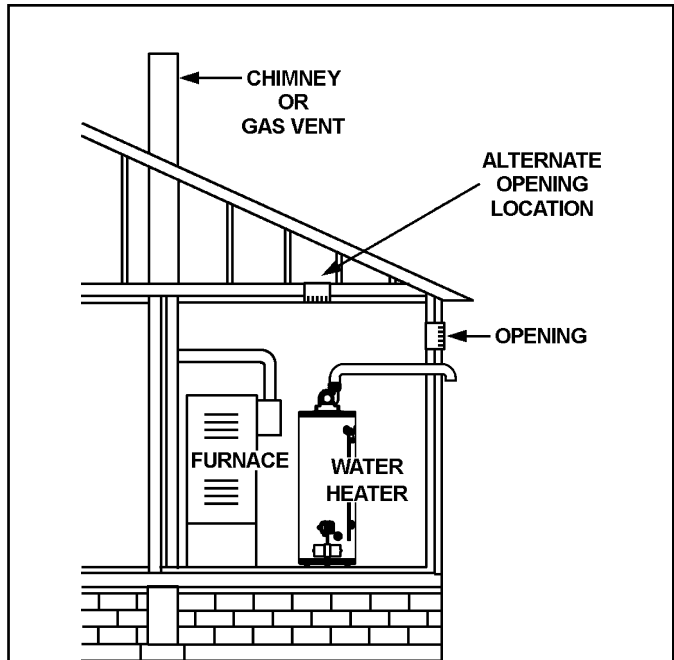

Figure 19.
- Alternatively a single permanent opening may be used when communicating directly with the outdoors, or with spaces that freely communicate with the outdoors. The opening shall have a minimum free area of 1 square inch per 3,000 Btu/hr of total input rating of all equipment in enclosure (see Figure 19).